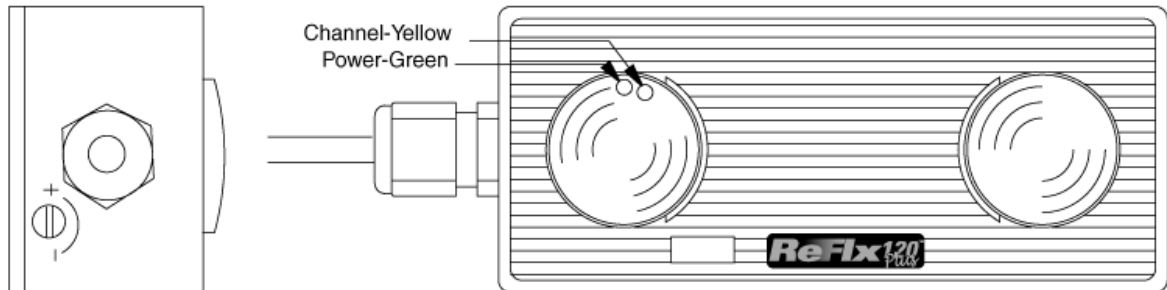

**Figure 4.1 Two(2) Channel Sensor**
1. Adjust the set screws on the sensor(s) counter-clockwise. The two (2) channel sensor will have a set screw for each channel on the top of the sensor. On this sensor, turn each set screw counter-clockwise until you hear or feel a “click.” See Fig. 4.1 Two\(2\) Channel Sensor on page 8.